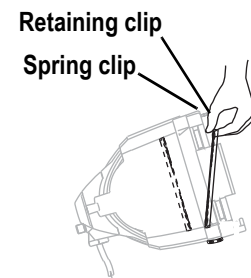

Figure 8
- Step 1: Position the fixture with the front of the unit (lens side) facing you, and tilted slightly upward. See Figure 8.